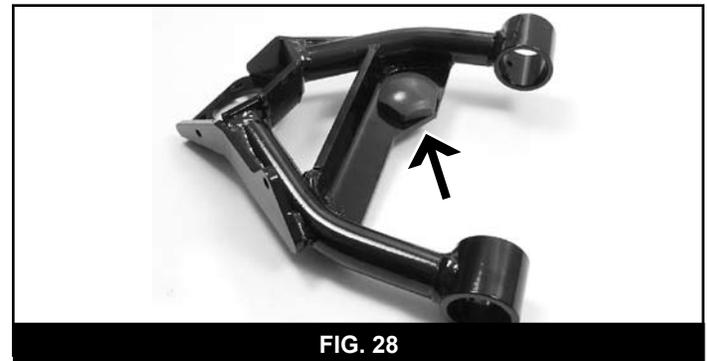

FIG. 28
56. Install the new bump stop to the underside of the control arm cross brace and fasten with a $\frac{3}{8}$ " nut and $\frac{3}{8}$ " lock washer from bolt pack #515 (Fig. 28).